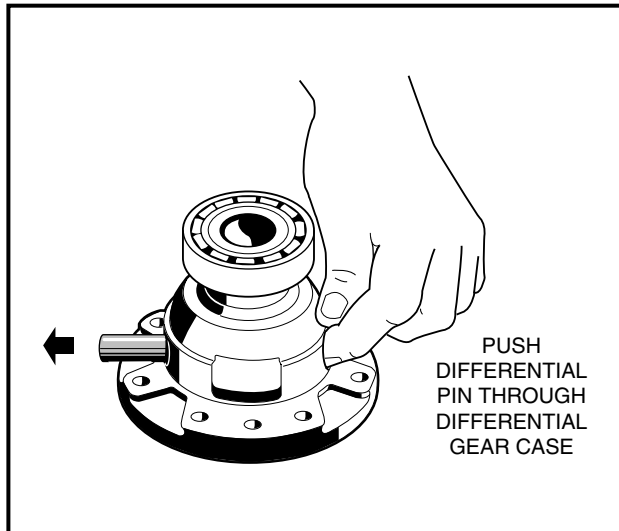

FIGURE 10-47
4. Remove the differential pin (88) (**Figure 10-6, Page 39**) by pushing it through from one side (**See Figure 10-47, Page 55**). Remove the two differential idler gears (89) and two idler gear thrust plates (85) (**Figure 10-6, Page 39**) as the pin is driven through.